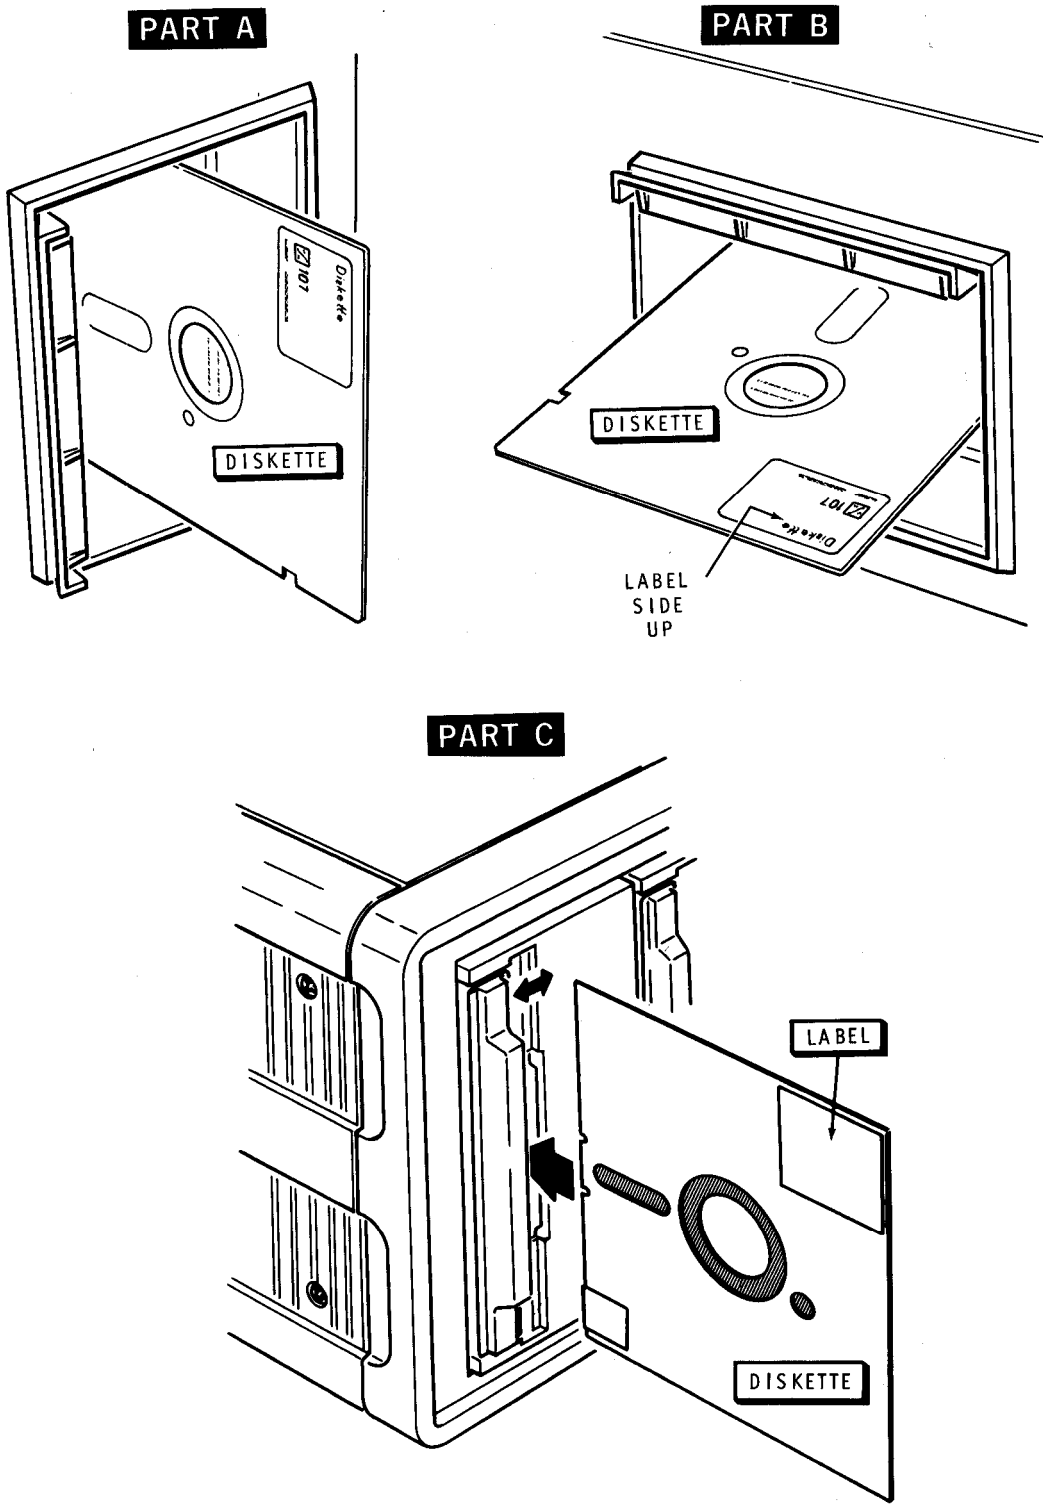

Figure 1-2
- ( ) 3. Insert the distribution diskette into the drive that has been hardware configured as primary boot drive 0 (see Figure 1-2). Close the door of the drive unit after you have inserted the diskette.